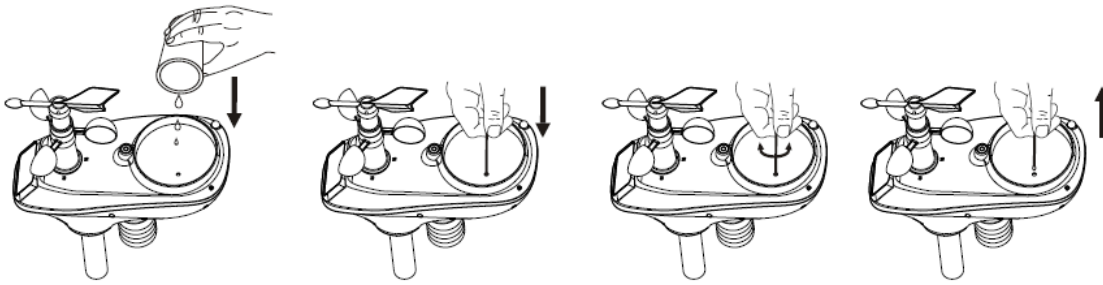

Figure 31
1. Clean the rain gauge once every 3 months as follows. Reference Figure 31.